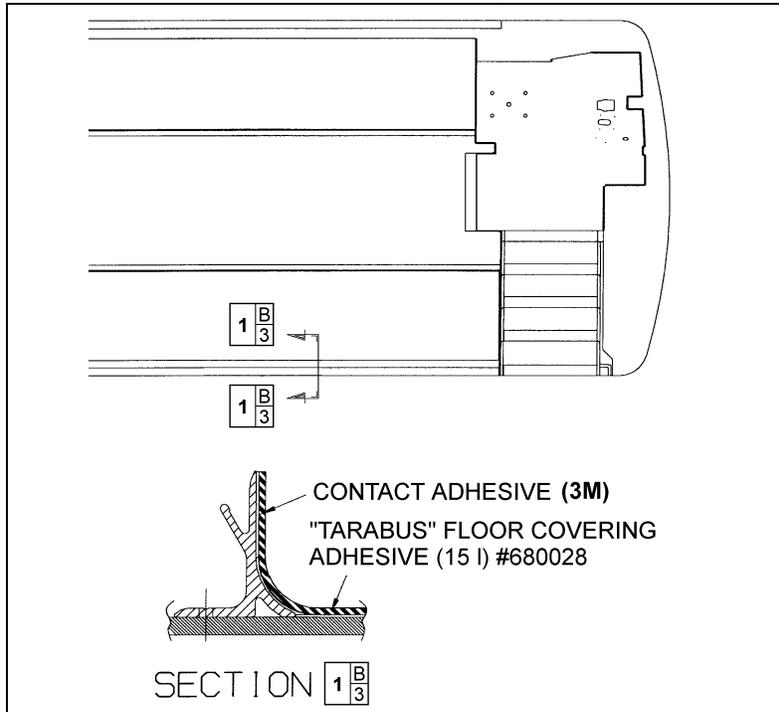

FIGURE 48: TARABUS FLOOR COVERING ADHESIVE APPLICATION 18640
8. Apply Sikaflex 221 gray sealant (680532) alongside passenger seat fixing tracks (refer to figure 48).